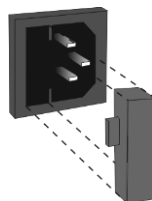

Figure 3. Fuse holder
- 8.4 **Fuse replacement.** Disconnect the power cable from the mains. Disconnect the power cable from the socket on the rear of the unit. Open the fuse holder, located near the socket (fig. 3). Check and replace with a correct fuse if necessary, see table below: